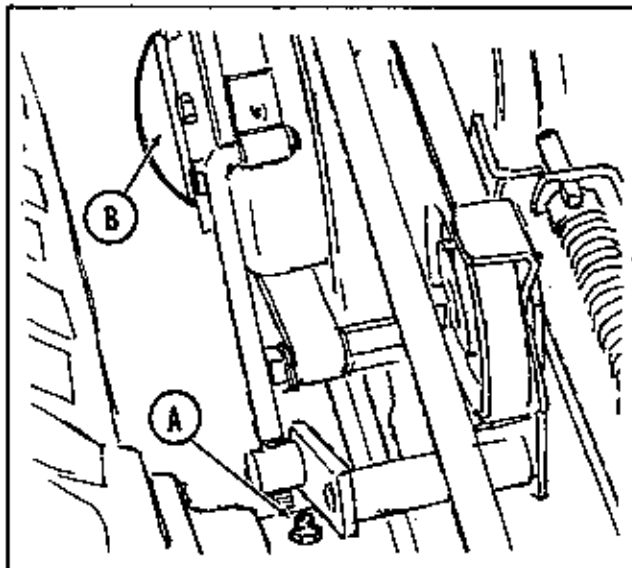

Figure 27. Grease zerk on right rear axle.
Right Axle	Figure 27, Item A
1. See figure 27. Remove cap (B) by prying off with a screwdriver.
3. Replace the cap (B).